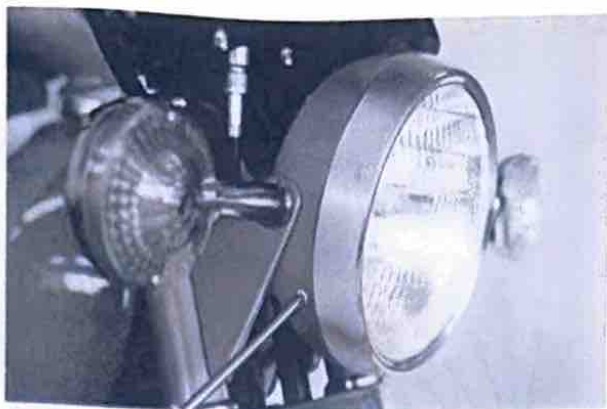

Fig. 36
28. Firmly fit the lens assembly in place. Make sure no wire are pinched. Then, secure the lens assembly with Phillips-head anchor screw. (Fig. 36)